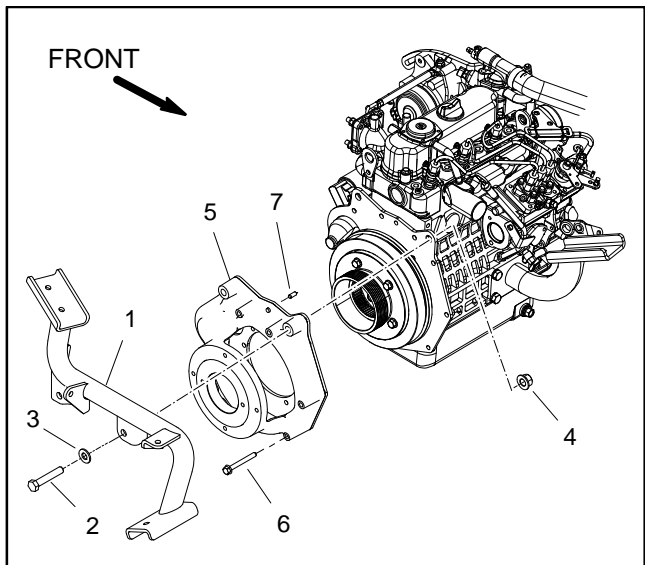

Figure 16
- B. Remove five (5) flange head screws that secure bell housing to flywheel plate (Fig. 16).
- C. Remove two (2) cap screws, washers and lock nuts that secure rear engine plate and bell housing to rear engine mount (Fig. 16).
B. Secure bell housing to flywheel plate with five (5) flange head screws (Fig. 16).
C. Secure rear engine plate and bell housing to rear engine mount with two (2) cap screws, washers and lock nuts (Fig. 16).